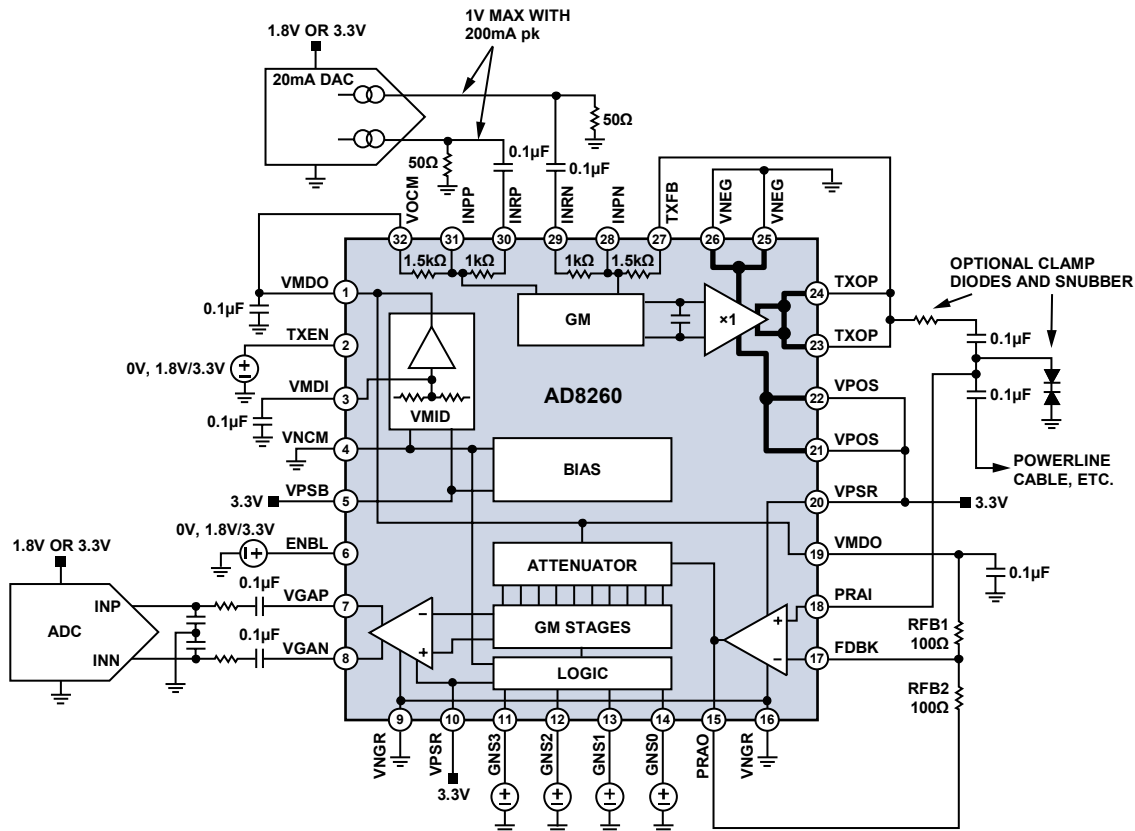

Figure 51 Block diagram and pinout
The AD8260 is a self-contained transceiver intended for analog communications using a power line as the media. It includes a high current driver usable as a transmitter, and a low noise, digitally programmable variable gain amplifier (DGA) useable as a receiver (see Figure 51). A high frequency current-feedback preamplifier is the interface to the DGA and is user configured for gains greater than 6 dB. Combined, the VGA and preamplifier are useable from dc to frequencies as high as 80 MHz, with a -3 dB bandwidth of 180 MHz.
The device is fabricated on the Analog Devices, Inc., high speed (eXtra Fast Complementary Bipolar) XFCB process. The PrA + DGA feature low dc offset voltage and a nominal gain range of -6 dB to +24 dB, a 30 dB gain span and a differential output for ADC driving. The power consumption is 93 mW with a single 3.3 V supply. The supply current is typically ~28 mA when all circuits in the device are active. During normal usage, either the driver amplifier is on or the PrA + DGA is on and, therefore, the power consumption in general is less than 28 mA. The AD8260 gain is programmed through a parallel interface (four bits). Figure 51 shows the circuit block diagram of the AD8260,
For optimal dynamic range, it is important that the inputs and outputs to both the driver amplifier and the preamplifier and the DGA output amplifier are ac-coupled in a single-supply application. In Figure 51, the DAC and ADC are presumed to operate on a 1.8 V or 3.3 V supply with a corresponding limited output and input swing. The DAC outputs are currents that point down and generate a voltage in the 50 Ω resistors that are connected to ground. The maximum voltage with a peak output current of 15 mA is 0.75 V; if a DAC with a 20 mA peak current is used, then the maximum voltage is 1 V per side for a differential input signal of 2 V p-p.
The high current driver amplifier can deliver very large output currents suitable for driving complex impedances, such as a power line, a 50 Ω line, or coaxial cable. The amplifier is designed to be driven differentially from a DAC, as shown in Figure 51. The differential input signal is amplified by 1.5× and produces a 2.25 V p-p single-ended output signal from a 1.5 V p-p input signal. A DAC with a 15 mA maximum output signal into a 50 Ω load provides a suitable input voltage. A DAC whose output is 20 mA produces an output swing of 3 V p-p. Note that the output voltage swing limit when using a 3.3 V supply is a maximum of 3 V p-p and distorts severely if increased further. The recommended output swing to optimize distortion is 2 V p-p using a 3.3 V supply. For higher supply voltages, such as +5 V or ±5 V, a correspondingly larger swing can be accommodated.
When the high current driver-amplifier is disabled, the gain setting resistors provide a signal path from input to output. To prevent inadvertent DAC signals from being transmitted when the preamplifier and DGA are enabled, the DAC in Figure 51 must have no output signal.
The VMID buffer is a dc bias source for the high current driver-amplifier and cannot accommodate large dynamic currents. The function of the external decoupling capacitors shown at Pin 1 and Pin 19 in Figure 51 is to divert high values of current.
Referring to Figure 51, the signal path consists of a 30 dB programmable attenuator followed by a fixed gain amplifier of 18 dB for a total DGA gain range of $-12\ \text{dB}$ to $+18\ \text{dB}$. With the preamplifier configured for a gain of 6 dB, the composite gain range is $-6\ \text{dB}$ to $+24\ \text{dB}$ from single-ended preamplifier input to a differential DGA output.
- Use the internal VMID buffer as shown in Figure 51.